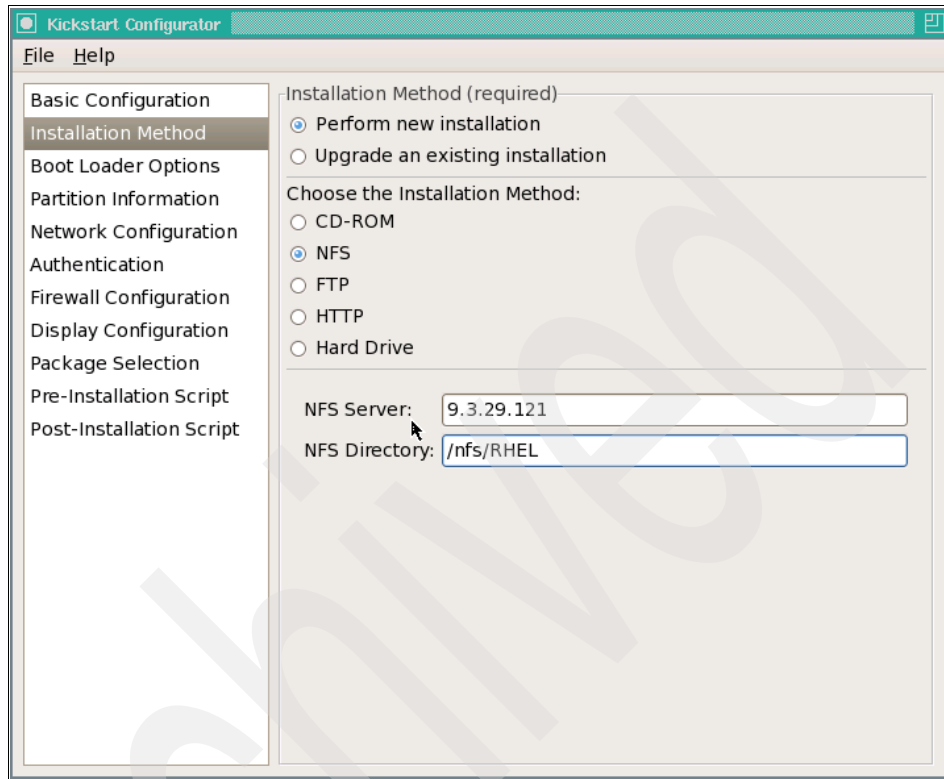

Figure 8-24 Installation Method panel (©2008 Red Hat, Inc.)
3. In the Installation Method panel (shown in Figure 8-24), all the basic parameters for a network installation using NFS are shown.